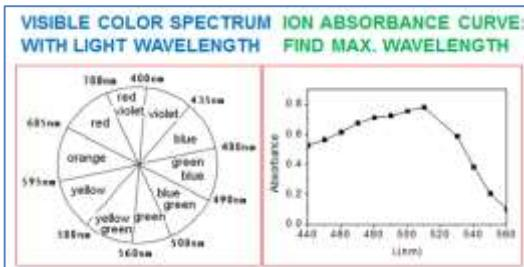

Figure 9. Determining  $\lambda_{OPT}$ .
- Record your data on the table and the datasheet. Find  $\lambda_{OPT}$  corresponding to the maximum A (similar to data in Figure 9). All data points for a given curve must be measured with the same cuvette. All phosphate solutions should be discarded according to your instructor's directions. Diagram here shows typical absorbance with wave length using same sample solution. **Your curve may look different than that shown by Figure 9.**